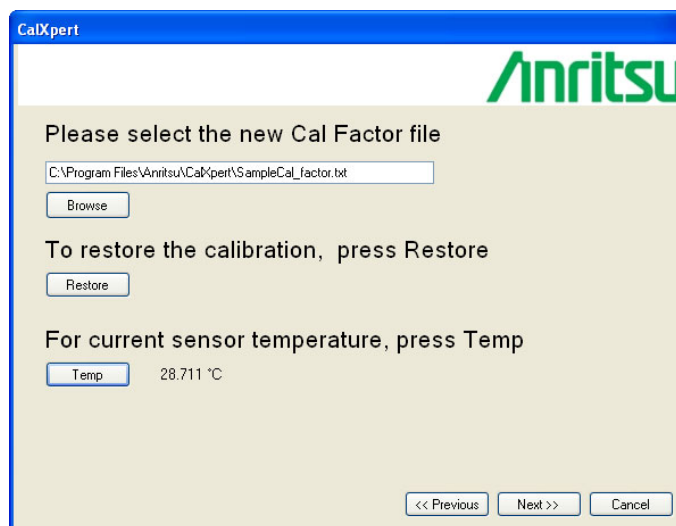

Figure 3-4. MA24106A CalXpert File Selection, Restore Calibration, and Temperature Check
9. To restore a previous calibration, click Restore (Figure 3-4) and select the appropriate HEX file, then click the Load button as shown below.